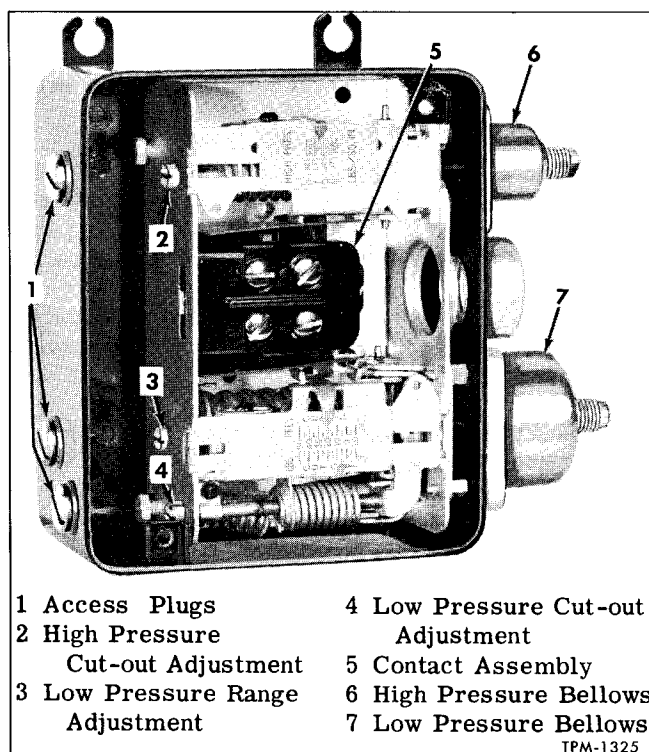

Figure 8—Refrigerant Hi-Lo Pressure Switch
The HI-LO pressure switch (fig. 8) is a dual pressure control switch connected in series with the air conditioning control circuit, and actuated by the high side and low side refrigerant pressures. The control unit consists basically of two bellows, both of which are connected through spring-loaded toggle linkage to a set of contact points, all enclosed within a dust-proof case.
b. If only the cut-out point requires adjustment, turn adjusting screw (4, fig. 8). Indicator is calibrated in increments of 5 psi.
2. With both the suction and discharge valves in operating position (cracked 1/2 to 1 turn away from backseated position), operate compressor. Have an assistant slowly close the discharge valve by turning valve stem clockwise and observe pressure reading on gauge the instant the compressor stops. If gauge reading when compressor stops is more or less than 375 psi, adjust by turning adjusting screw (2, fig. 8).